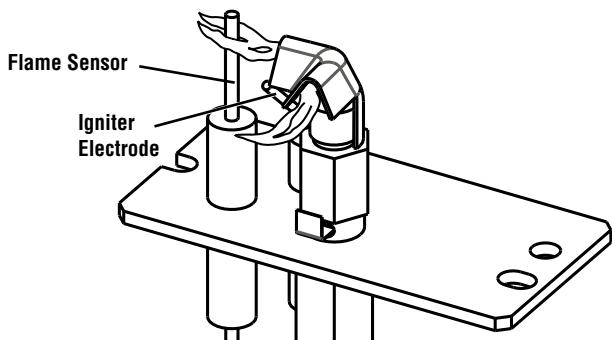

Figure 29
- Periodically inspect the pilot system for proper flame. Turn the pilot ON/Auto switch to the ON position. Ensure the igniter lights the pilot. The pilot flame should engulf the flame sensor as shown in **Figure 29**. See *Intermittent/Standing Pilot Mode* on **Page 23** for instructions on switching from intermittent ignition to a standing pilot.